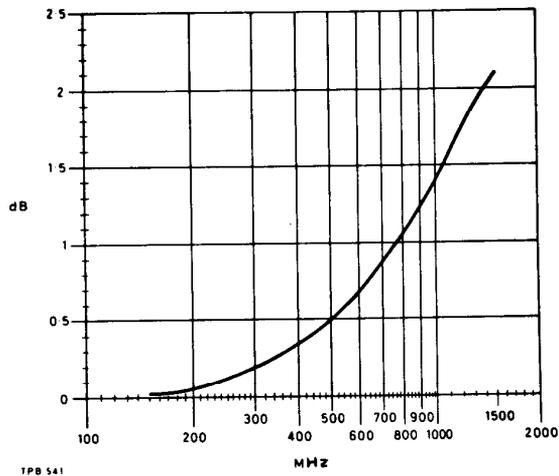

Fig. 5 Insertion loss curve for T connector and probe (typical)
44. Fig. 5 shows the typical insertion loss for the T connector plus the probe.